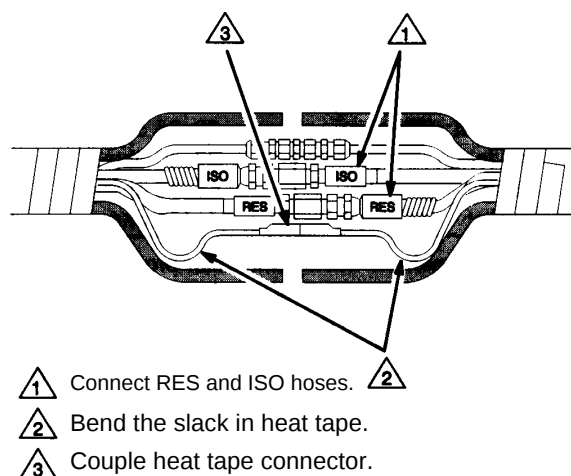
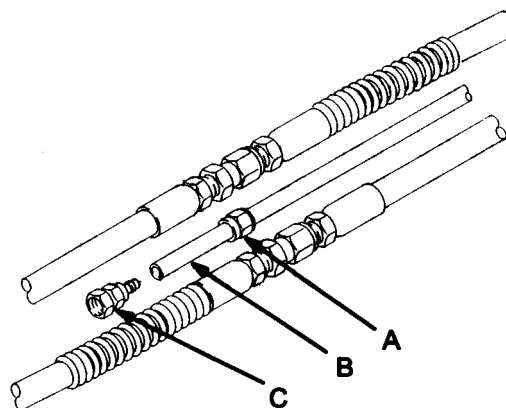

Figure 2
Figure 3
4. **Cut the uncoupled air hoses (B)** to a length that will be easy to couple to the next air hose. See Figure 2.
- a. Slide the male end of the sleeve (A) over the hose (B).
- b. Grease the barbed end of the stud (C) and push it into the hose until it seats properly.
- a. Use an ohmmeter to check the electrical resistance of the two outer prongs of the connector (D) that attaches to the heated hose control. See Figure 3. The resistance for the various lengths of coupled hose assemblies is given in the following coupled hose chart.